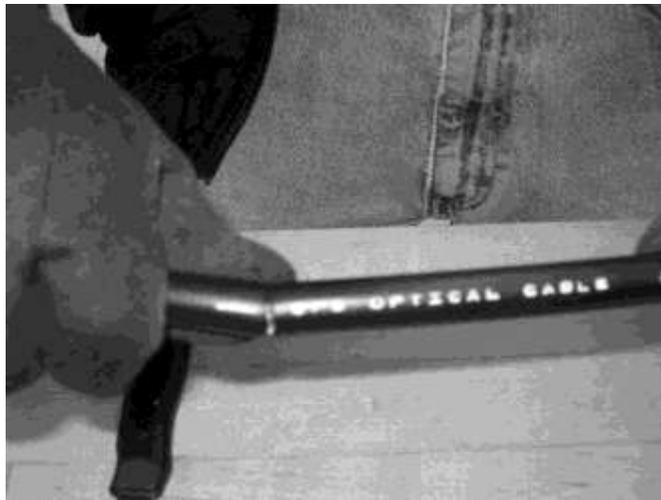

Figure 3 - Separate the cable sheath at the ring cut.
4.3 Using a circular motion, gently flex the cable at the ring cut. Be careful not to violate the minimum bend radius of the cable. The polyethylene sheath and steel armor will separate at the ring cut (Figure 3).